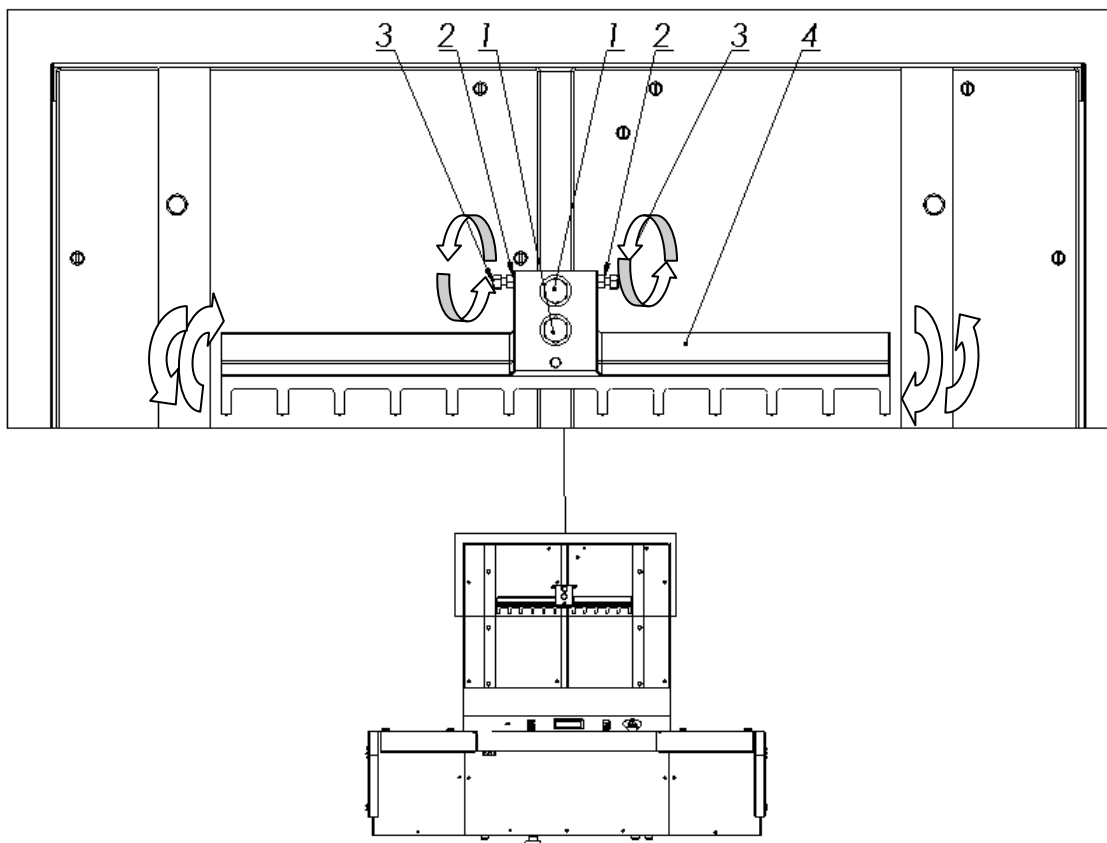

Figure 41. Adjusting elements of back gauge
- 8.4.3 loosen the screws 1 (fig.41)
- 8.4.4 loosen the nuts 2 (fig.41)
- 8.4.5 by turning the screws 3, place the approaching beam 4 (Fig. 41) at the right angle
- 8.4.6 lock the adjustment screws with 3 nuts 2 (fig.41)
- 8.4.7 firmly tighten the screws 1 (fig.41)